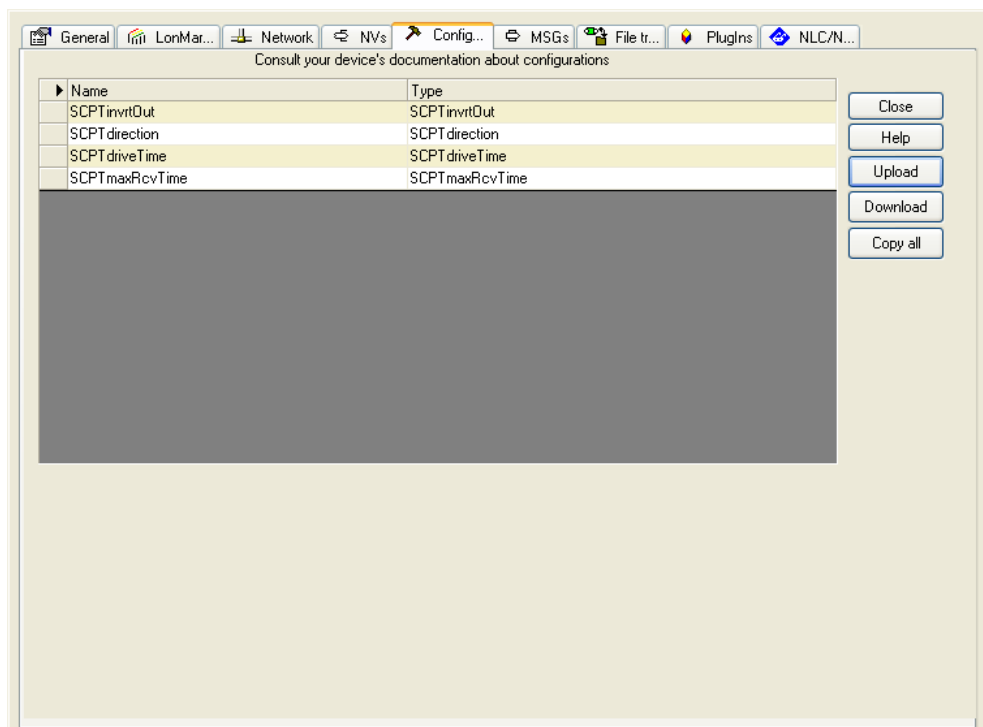

Figure 116: Configuration Tab for Configuration Properties in NL220.
2. Press the **Upload** button on the Configuration tab of the device properties (see Figure 116).